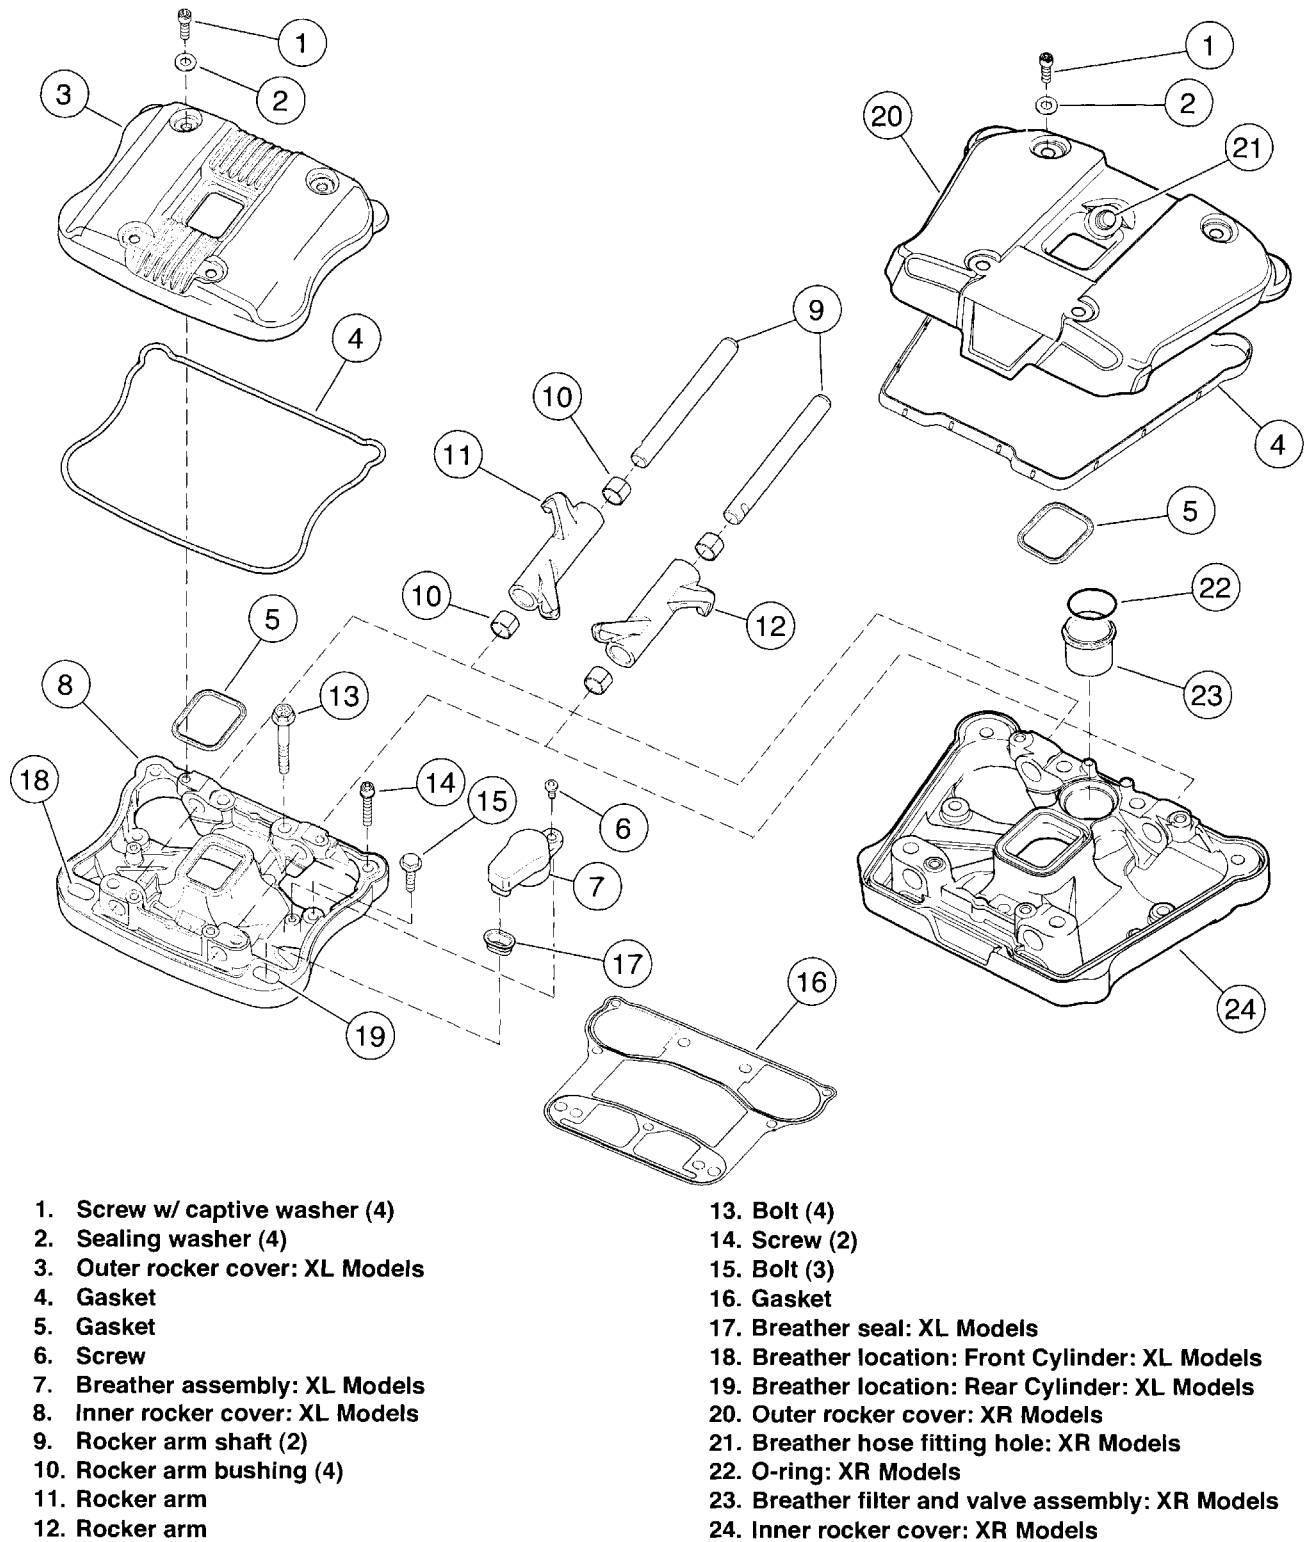

Figure 3-43. Rocker Cover Assembly
2. See Figure 3-43. Remove four screws with captive washers (1) and sealing washers (2). Remove outer rocker cover (3) or (20). Discard sealing washers.
6. See Figure 3-43. Remove inner rocker cover (8) or (24). Remove and discard gasket (16).
- a. **XL models:** remove screw (6), breather assembly (7) and breather seal (17). Discard seal.
- b. **XR models:** push breather assembly (23) and O-ring (22) out from the under side.
9. See Figure 3-43. Remove rocker arms (11, 12); mark them for reassembly in their original locations.